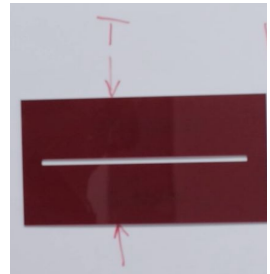

Figure 1.5
- **Material Thickness (T):** This refers to the unbent sheet's nominal thickness. It can vary slightly due to manufacturing tolerances in the metal coil. Always use the average or nominal value provided by the supplier when setting up your sheet metal rules in CAD (see Figure 1.5).